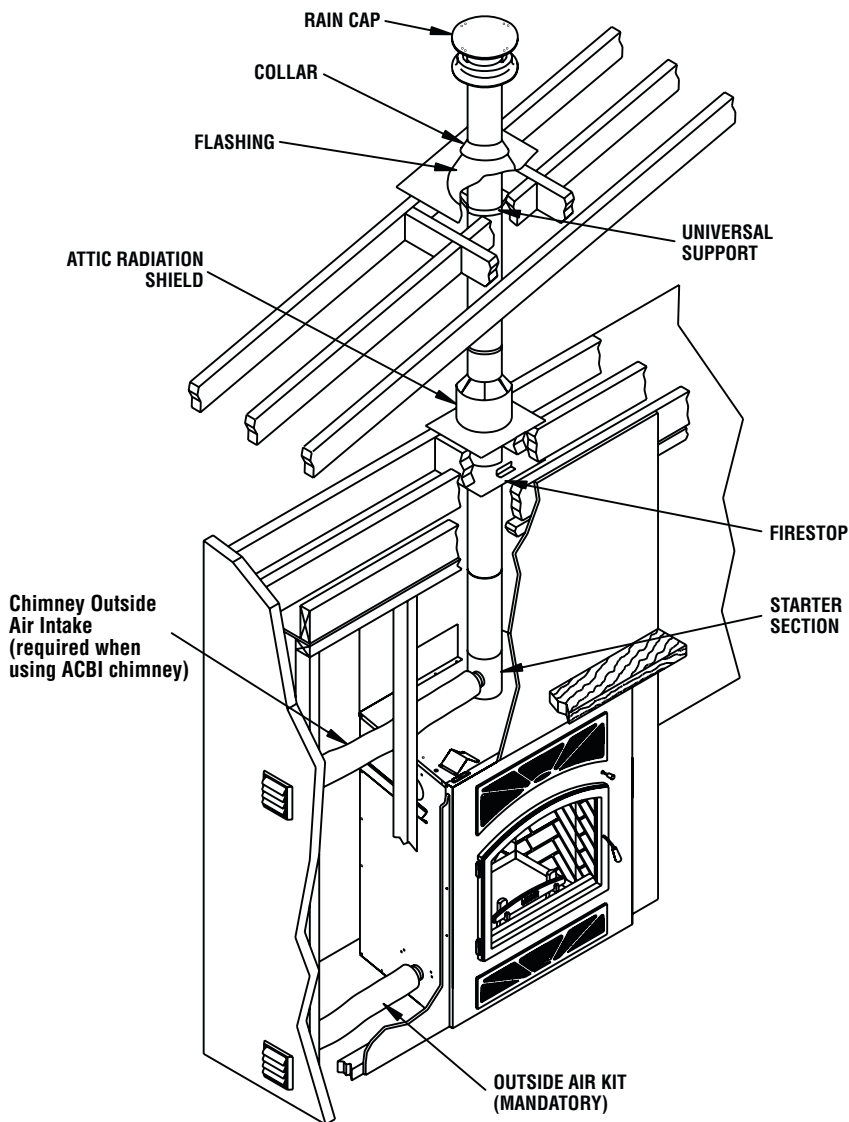
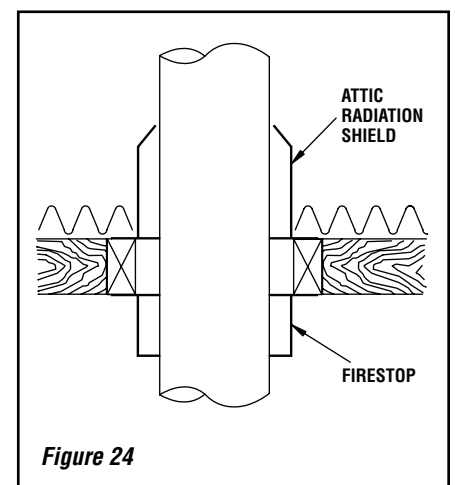

Figure 22
Figure 24
2. From below, install a firestop in each ceiling/floor separation through which the chimney will pass. At the attic level, install an attic radiation shield from above, (see Figure 24). S2100+\* and ASHT+\*: Place the first chimney length on the fireplace, to lock turn 1/4 of a turn clockwise. ACBI\*: A starter section must be installed before installing the first chimney length (see Figure 22).